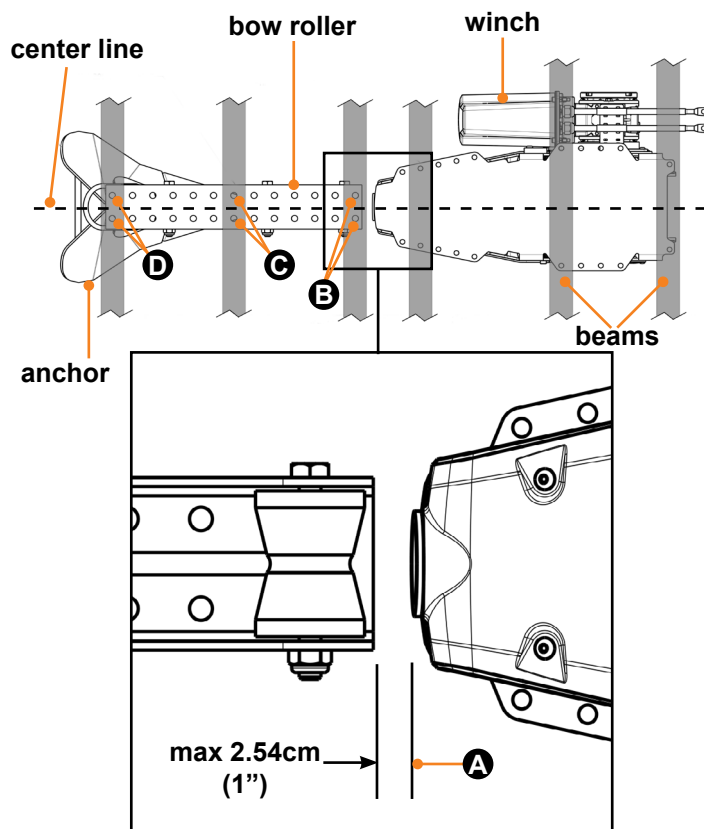

Fig.7
- B. The aft-most mounting holes (Fig.7B) and fore-most holes (Fig.7D) on the bow roller **MUST** align with a beam (Fig.7). Optionally, for extra security a set of third holes can be aligned near the center of the bow roller where a beam is available (Fig.7C).
- D. Make sure the center line of the anchor shank and bow roller rollers align with the center line of the winch housing and bow roller (Fig.7).